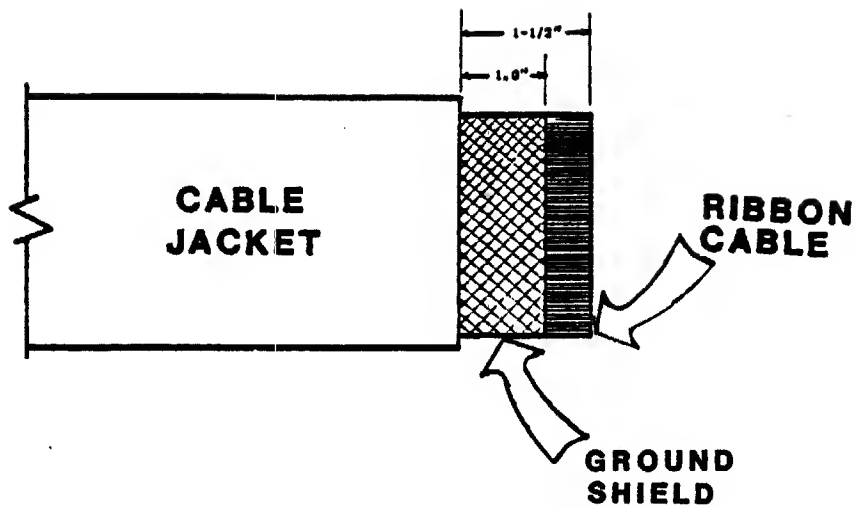

Figure 3-23. Cable Jacket
1. Remove approximately 1-1/2 inches of cable jacket on the transport end of the I/O cables (refer to Figure 3-23).